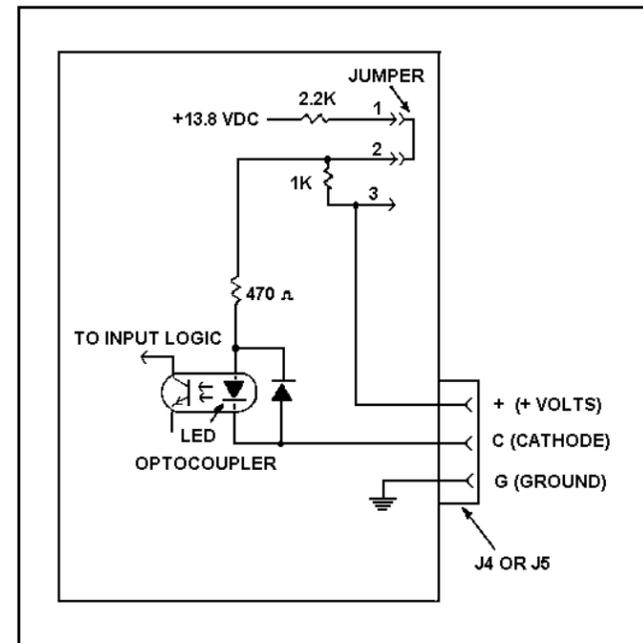

Figure 4 - Typical Alarm Input Circuit
A typical circuit of an alarm input is shown in Figure 4. All other inputs are identical. A jumper plug located on the TAU backplane is available for each input to alter the circuit configuration. When the jumper is between pins 1 and 2, as shown, the TAU provides 13.8 Vdc from its internal source to the anode of the LED in the optocoupler. A user-supplied contact closure between the cathode (C) and ground (G) input pins turns on the LED.